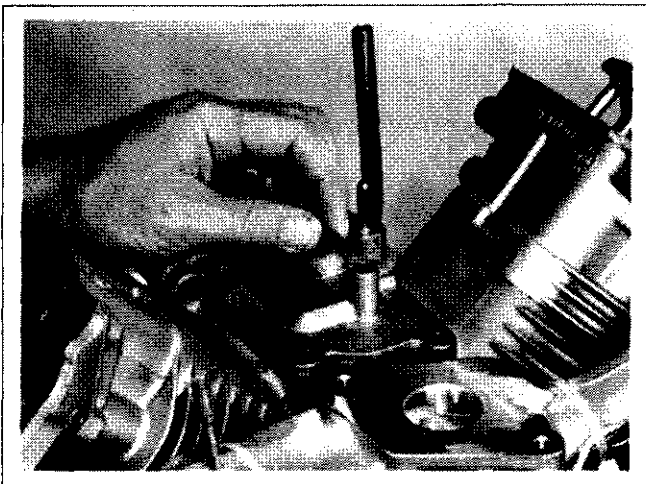

Figure 11-51. Install Two Screws Indicated First.
6. Carefully position breather cover on crankcase. Make sure filter hairs are not in cover seating surface. Check to make sure no sealant (if used) is near Oil Sentry™ switch area. Install first two hex. flange screws at positions shown in Figure 11-51 and **finger** tighten these at this time.